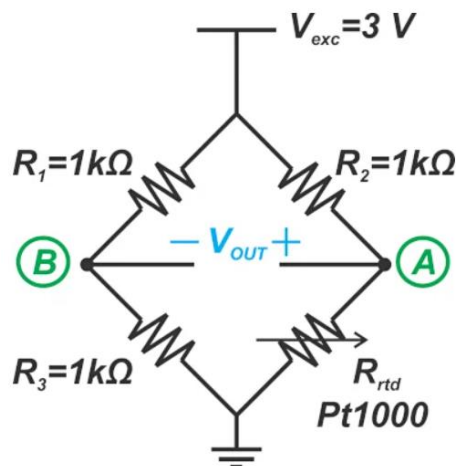

Figure 2: Wheatstone bridge to convert changes of resistance RTD to voltage
5. Calculate the Resistance of RTD for the Figure 2, if